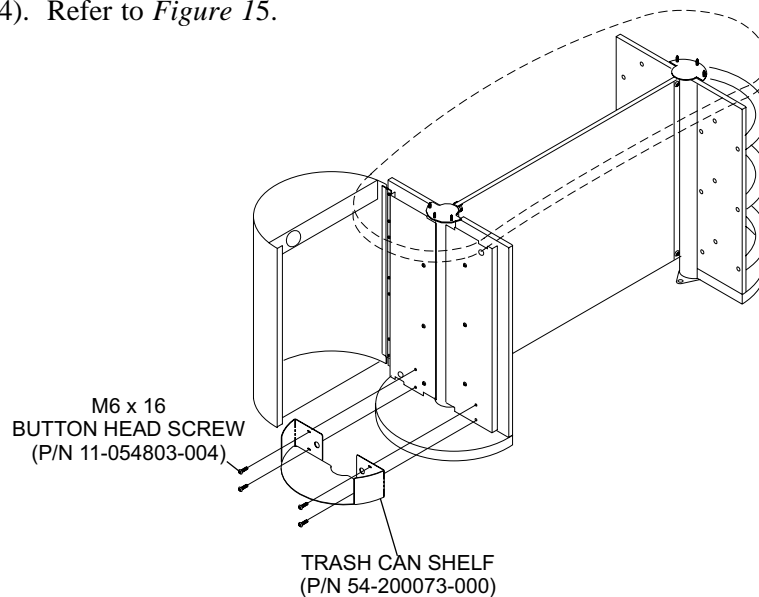

Figure 15
1. Install trash can shelf (P/N 54-200073-000) using four M6 x 16 m button head screws (P/N 11-054803-004). Refer to *Figure 15*.